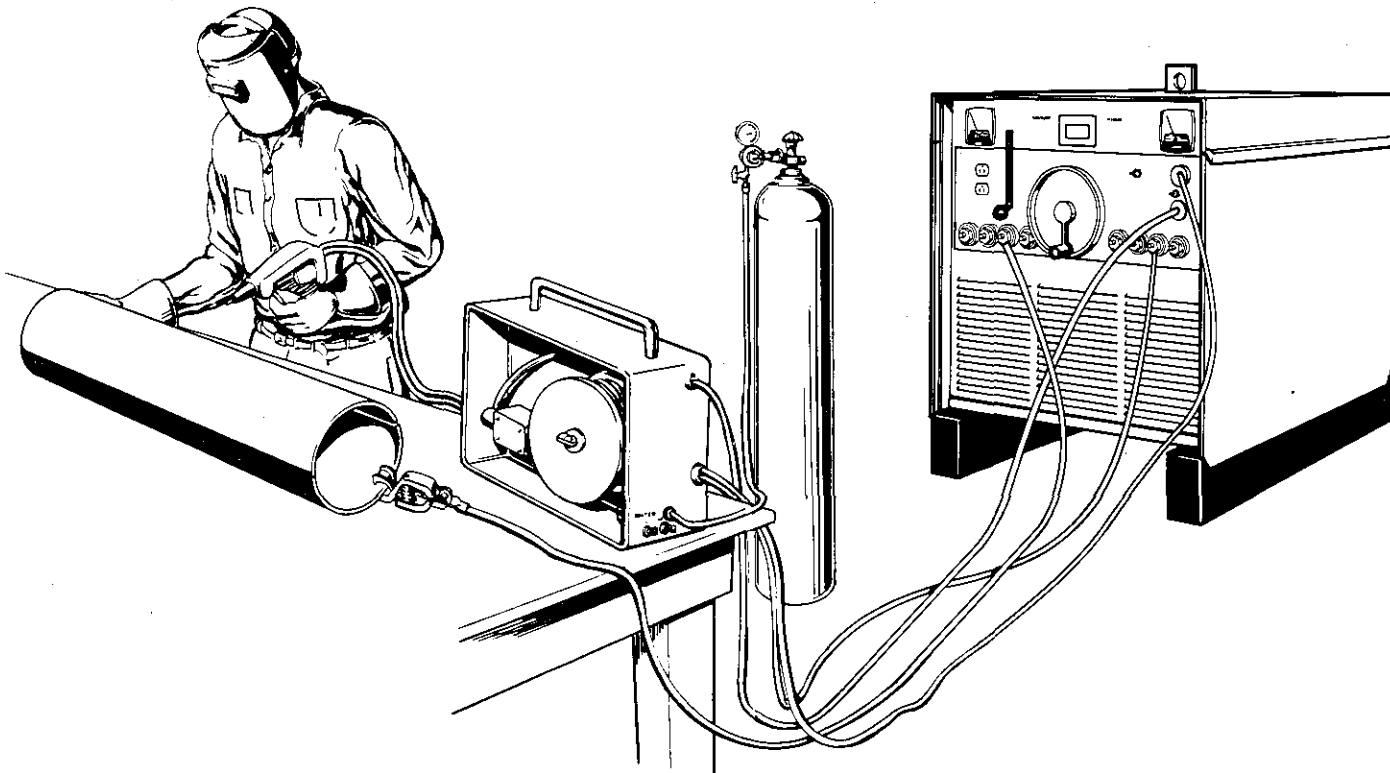

Figure 10 -- Connections for Gas Metal-Arc Welding (GMAW)
□A. Make all the connections as described in Section 4.1 and Figure 10. Again, slope and stabilizer selection will vary. Table V is included as a guide for initial selections. This table was compiled using mild steel as a base metal and then using aluminum bronze and silicon bronze electrode wire as a filler in overlay or buildup work.
□B. Make all the connections, etc., as described in Section 4.1 and Figure 10. Remember the settings etc., in Table VI will vary due to different wire manufacturers, size of wire, type of base material, conditions of base material and numerous other variables that cannot be covered due to unknown welding conditions that may exist. It is recommended that scrap material of the same com-